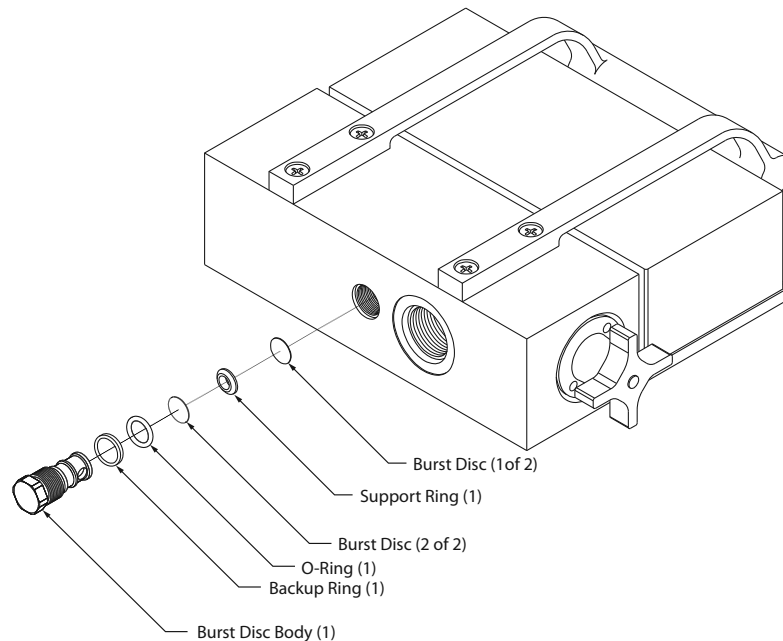

FIGURE 8 - PFM6BD Burst Discs
1. Position the PFM6BD to expose the internal burst disc body as shown in **Figure 8**.